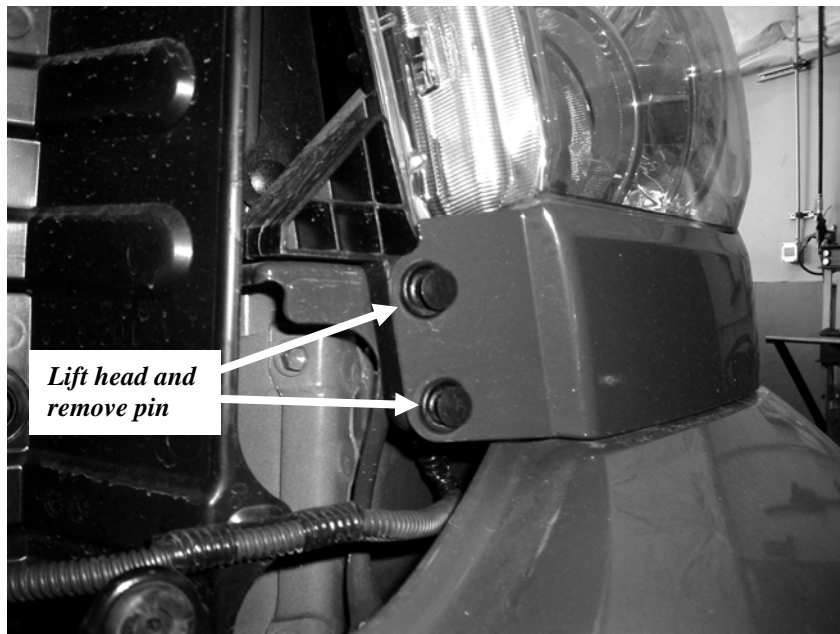

Figure 1 Headlamp trim panel LH
1. Open the vehicle hood. Remove the two(2) plastic pin fasteners from the trim panel below each headlamp. Pull the center of the fastener out part way then lift the entire fastener out. The panels are snapped into place at their outside ends. Support the ends and pull the panel *forward*, not outward. Be careful not to damage the panels. **Figure 1**